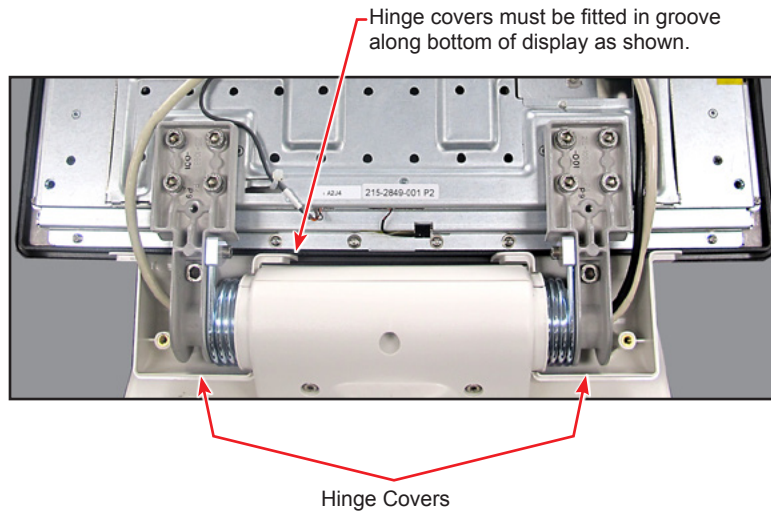

Figure 3-44 Display Hinge Cover Placement
- Install eight 5 mm screws but do not tighten until hinge covers are in position as shown in Figure 3-44.